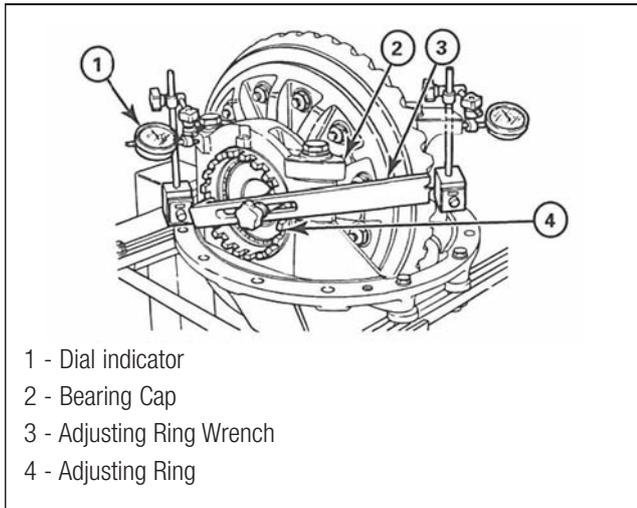

Fig. 2.108
1. Place two dial indicators in central and crossways positions onto the outer machined faces of the caps. Fig. 2.108